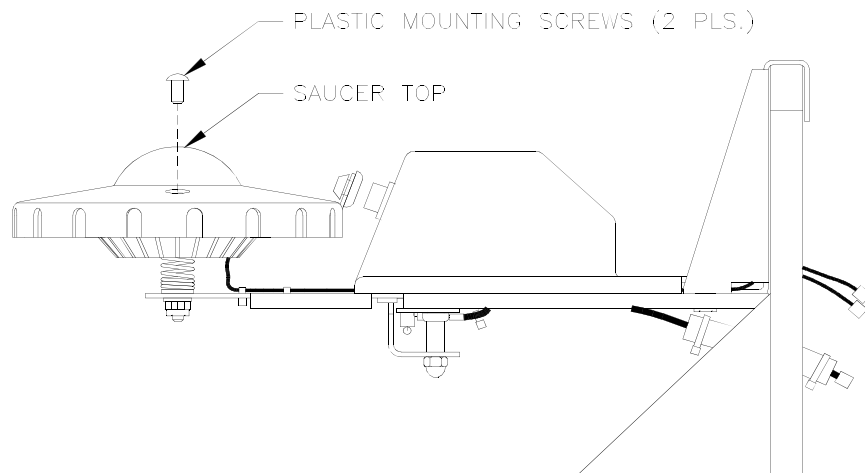

FIGURE 4
2. Remove the two plastic mounting screws (p/n FSM-083-PPH037N) from the Saucer Top (p/n AFM-03-94671M for metalized or AFM-03-94671 for original). (See Fig.4)